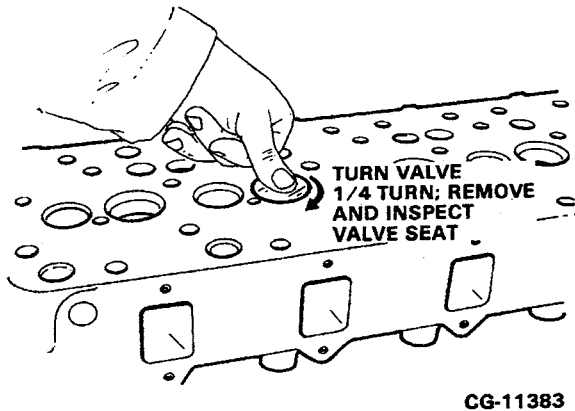

Figure 4.45. Check Valve Seat Contact
- b. Apply pressure on exact center of valve head while making a quarter-turn in the seat. Refer to Figure 4.45.